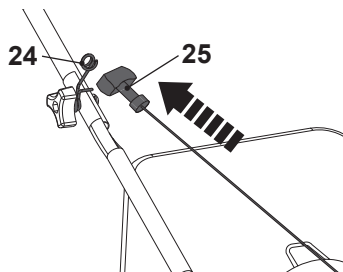

Fig. 12
2. Pull the recoil starter handle (25) lightly until you feel resistance then pull it rapidly. Do it repeatedly until the engine starts (Fig. 12).